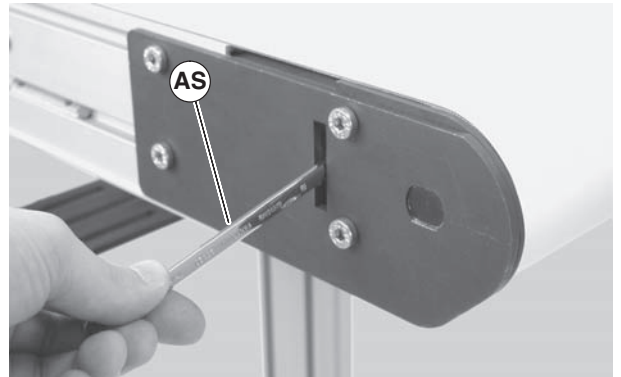
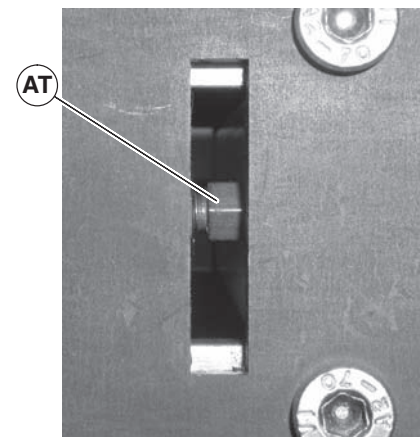

Figure 31
Figure 32
3. With the conveyor running, use wrench (Figure 31, item AS) to rotate the tracking screw (Figure 32, item AT) in small increments until the belt tracks in the center of the conveyor.